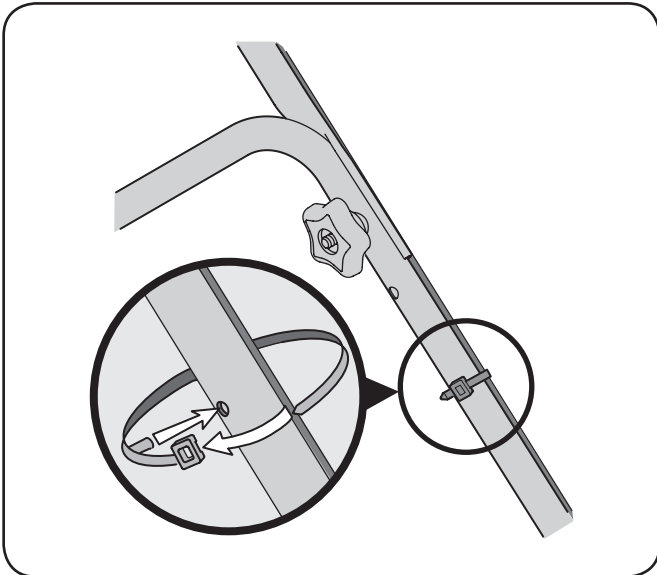

Figure 3-4
4. Insert post on cable tie into hole provided on the lower handle. Pull cable tie tight and trim excess. See Fig. 3-4.